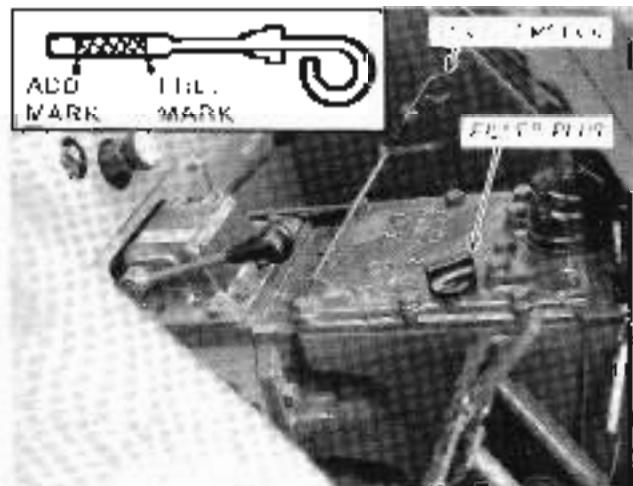

Figure 41 Transmission, Rear Axle and Hydraulic System Oil Level Dipstick and Fill Plug
1. With the tractor standing level and the engine off, check the oil level with the dipstick. Figure 41.